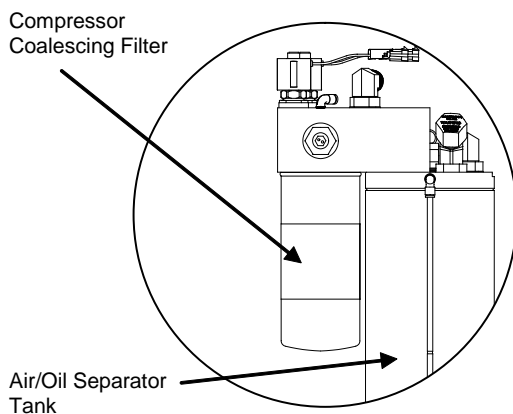

Figure 13 - Coalescing Filter Location
- ☐ Locate the drain port inside the rectangular tube below the radiator and behind the front service panel (Fig. 13).